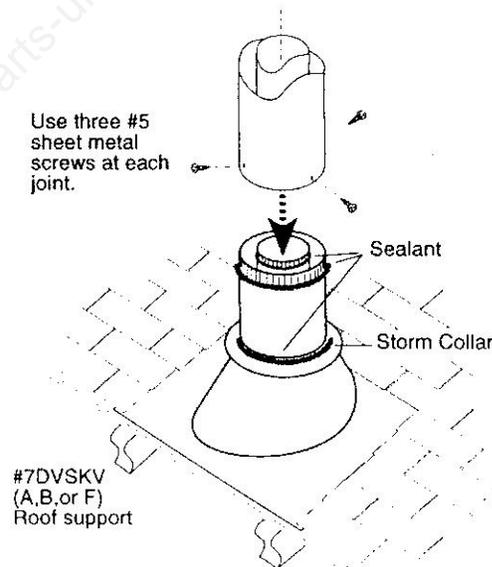

Figure 3-17. Roof support and flashing.
9. Install the appropriate roof support and flashing, making certain that the upper flange of flashing is below the shingles. See Fig. 3-17.
11. Install the Storm Collar and seal around the joints. See Fig. 3-17.